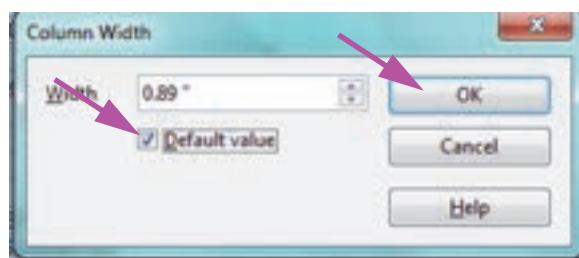

Figure 5-67. Column Width Dialog Box
7. The Column Width dialog box appears. See Figure 5-67.